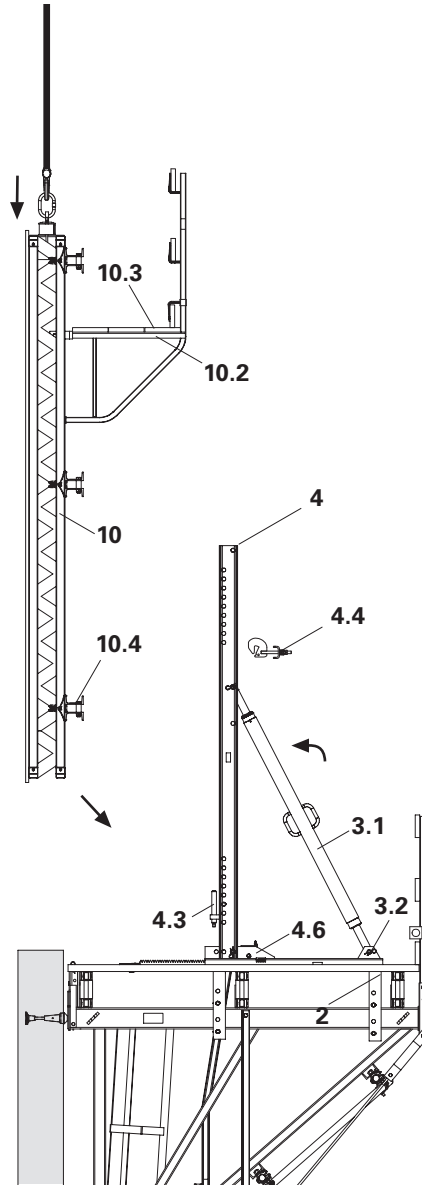
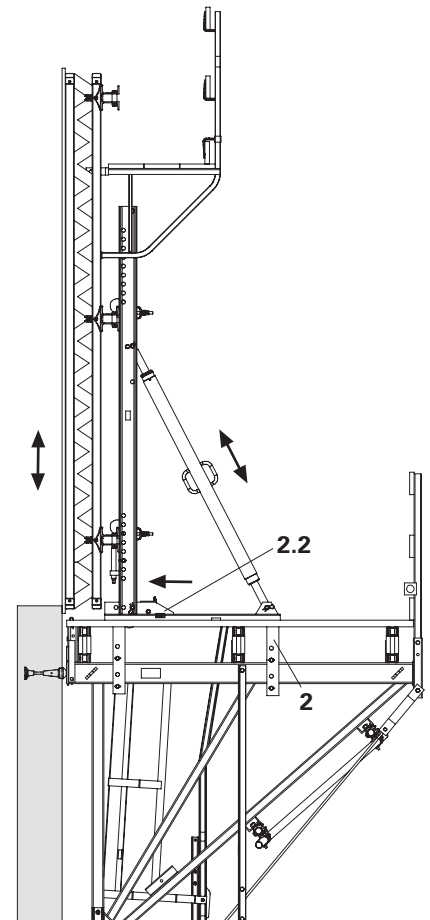

Fig. B2.11
Fig. B2.12
5. Lower formwork (10) with the bottom waler (10.4) on to the height adjusting unit. Lifting gear remains tensioned.
6. Fix strongback connector (4.4) to the walers. (Fig. B2.11)
7. Move carriage (2) with formwork to the wall. Secure carriage with wedge (2.2).
8. Align formwork. (Fig. B2.12)